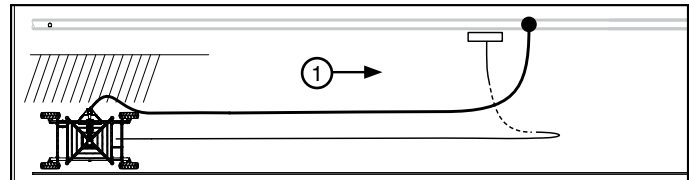

Figure 53-2 1. Direction of Travel
- (a) As the cart moves, the side inlet begins to pivot. See Figure 53-2.